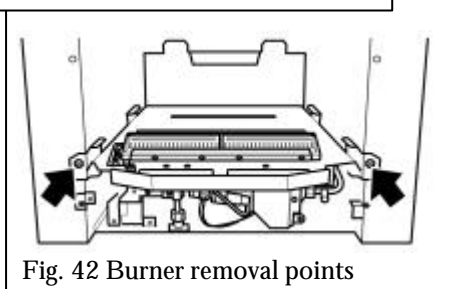

Fig. 42 Burner removal points
14.6 TO REMOVE THE BURNER UNIT (See figure 42)